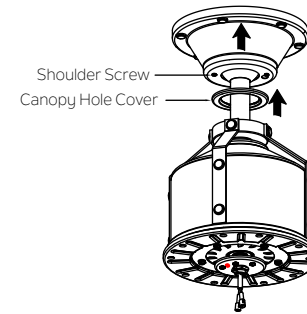

Fig. 16
Step 3. Securely attach and tighten the canopy hole cover over the shoulder screws in the mounting bracket utilizing the keyslot twist-lock feature. (Fig. 16)